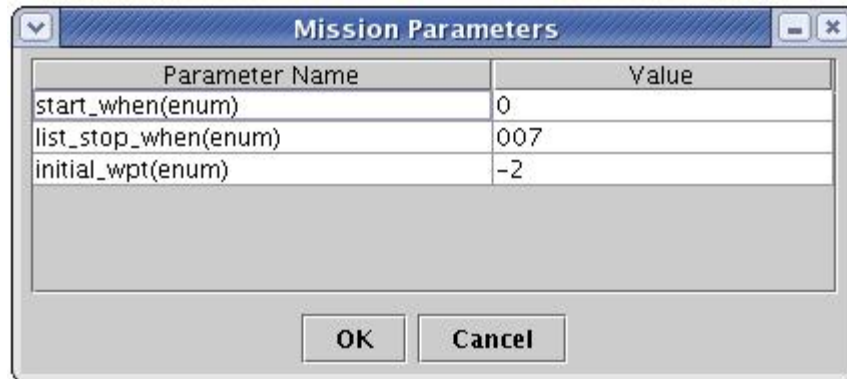

Figure 6-14. Mission Parameters Dialog.
1. Select Missions/Set 'goto' parameters. A mission parameters dialog will then appear (similar to that shown in Figure 6-14), enabling the user to change parameter values.